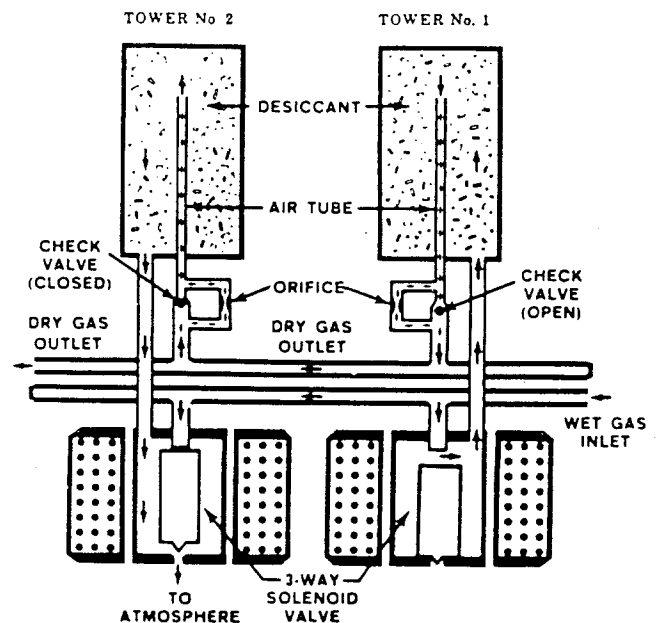

FIGURE 6 — OPERATION OF PUREGAS HEATLESS DRYER
2. In the Puregas Heatless Dryer (dehydrator) the moisture vapor in the compressed air is adsorbed in a desiccant chamber (see Section 3.6 and Figure 6, for detailed operation of the dryer) which is automatically reactivated every 30 seconds.
The Puregas Heatless Dryer, which is located downstream from the air compressor, consists of two (2) desiccant filled towers, a manifold, a timer and two (2) solenoid valves and is arranged and cycled so that as one tower delivers dry air to the cable system, the desiccant in the other tower is purged or dried by a small quantity of the dry air supplied by the first tower. (Refer to Figure 6). The tower functions reverse at 30 second intervals. The operation of the towers are as follows: